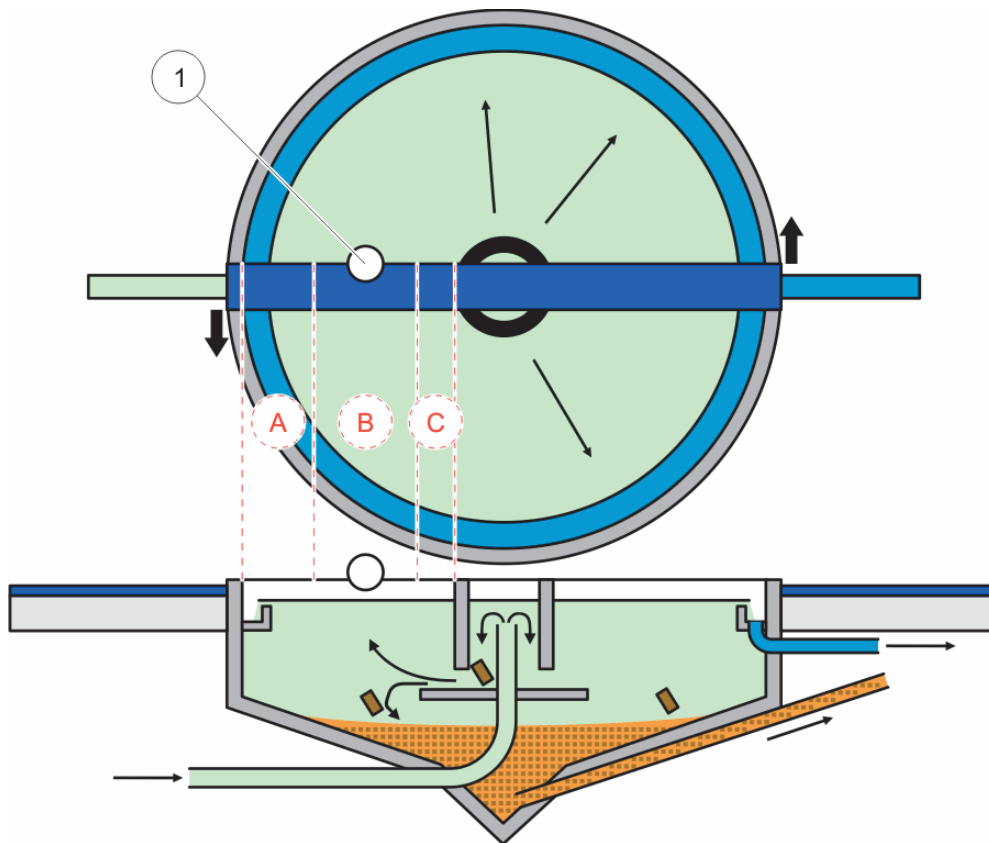
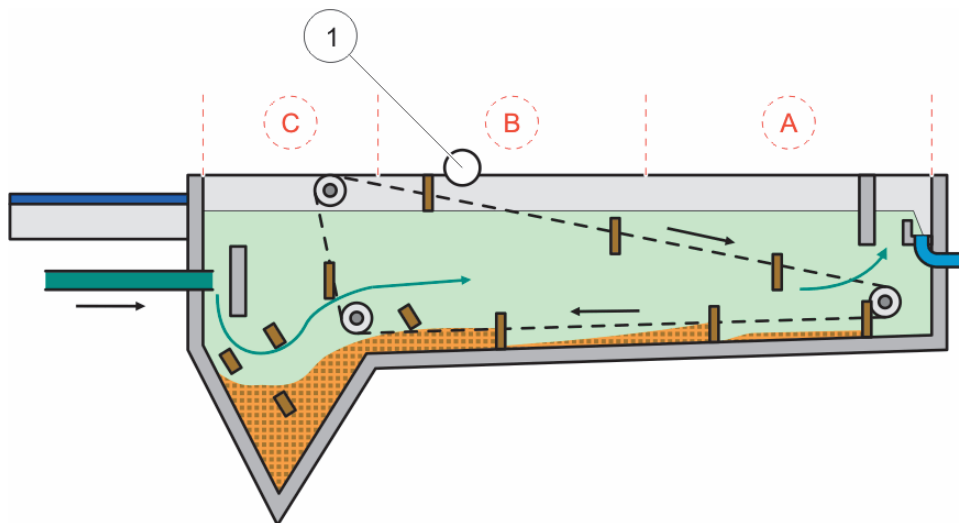

Figure 7 Round tank graphic
Figure 8 Rectangular tank graphic
A suitable measurement location must be found depending on tank type. The graphics that follow show typical examples for a round tank and a rectangular tank. The point (1) in Figure 7 and Figure 8 is a suitable measurement location.
Note: *Installation note: For round tanks with a rotating scraper bridge, install the probe in the direction of rotation on the back of the bridge (Figure 7).*